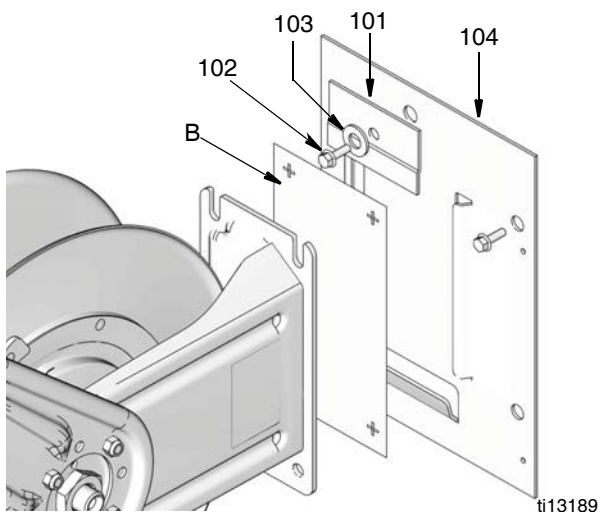

FIG. 10
- Select the reel bank mounting location. Mount the reel to a wall, using the provided template (B) for laying out the holes you drill.
You can mount the base plate (104) to the wall for easier installation and removal of the hose reel for servicing (FIG. 10).
- Slide hose reel onto the base plate (104) and install the hold-down plate (101), washer (103) and cap-screw (102). Tighten the screw firmly (FIG. 10).